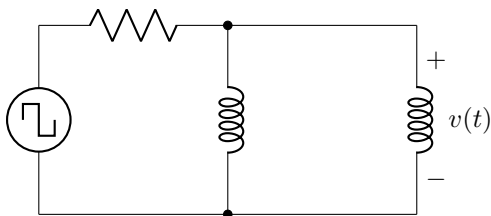

Figure 10.4: RLC circuit diagram.
4. Is figure 10.4 a first order or second order circuit? How do you know?